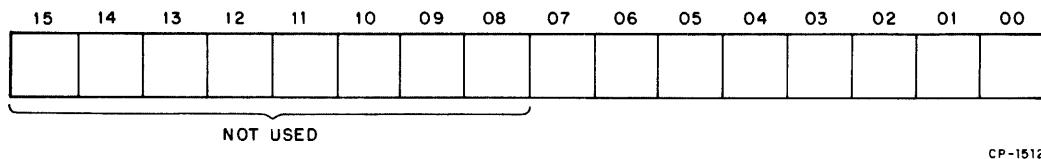

Figure 3-4 RXDB Format (RX11)
**3.2.2.3 RXDB – RX Data Buffer (Figure 3-4)** – All information transferred to and from the floppy media passes through this register and is addressable only under the protocol of the function in progress (Paragraph 3.3).